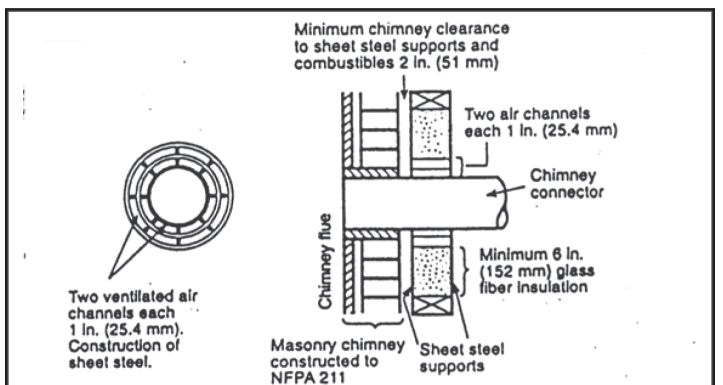

Figure 12
3. A chimney thimble, as shown for 3" and 4" above (Figures 12 and 13) shall be for types "3" and 4" connections to facilitate removal of the chimney connector for cleaning. The chimney thimble shall be of ASTM C315 fireclay with 5/8" minimum wall thickness, or material of equivalent durability. The inside diameter of the thimble shall be sized for the proper snug fit of a 6" diameter chimney connector pipe. The thimble shall be installed without damage to the chimney flue. The thimble shall extend through the chimney wall to, but not beyond, the inner surface of the chimney flue and shall be permanently cemented in place with high temperature cement.
If the chimney connector does not have to pass through a combustible wall to get to a masonry chimney, simply connect the chimney connector directly to the masonry chimney's chimney thimble as described and shown in Figures 12 and 13. Remember, the chimney connector should extend into the chimney thimble to the inner face of the chimney flue but not beyond. If the chimney connector is extended through the chimney thimble into the chimney flue, resistance to the flow of smoke and gases up the chimney will occur, which will have an adverse effect on the operation and performance of the heater and venting system.